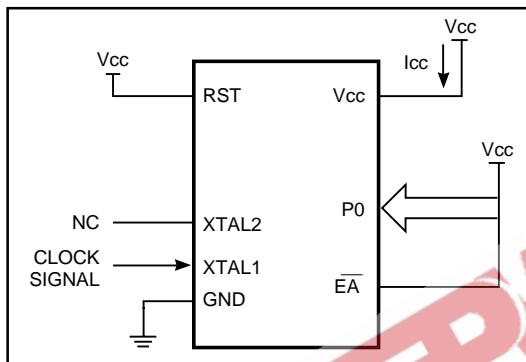

Figure 11. Active Mode
- See Figures 11, 12, 13, and 14 for  $I_{cc}$  test conditions.